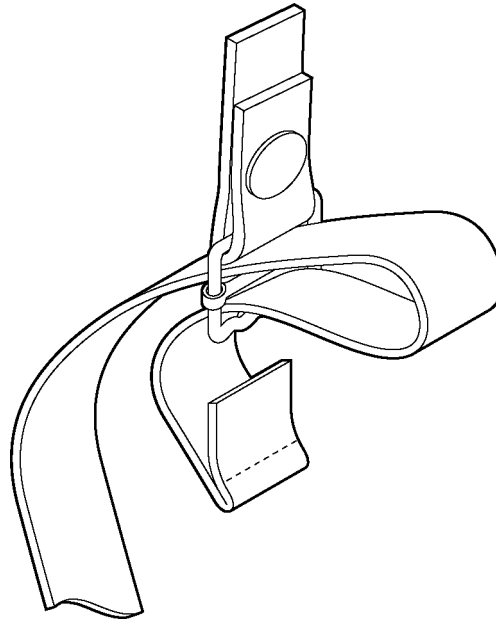

Figure 2-3. Lacing of Sliding Bar Buckles.
(2) Replace the chinstrap by installing the two snaps on the left side of the headband and neck pad. Lace the two right straps into their respective sliding bar buckles on the right side of the headband and neck pad for correct lacing. (Figure 2-3)